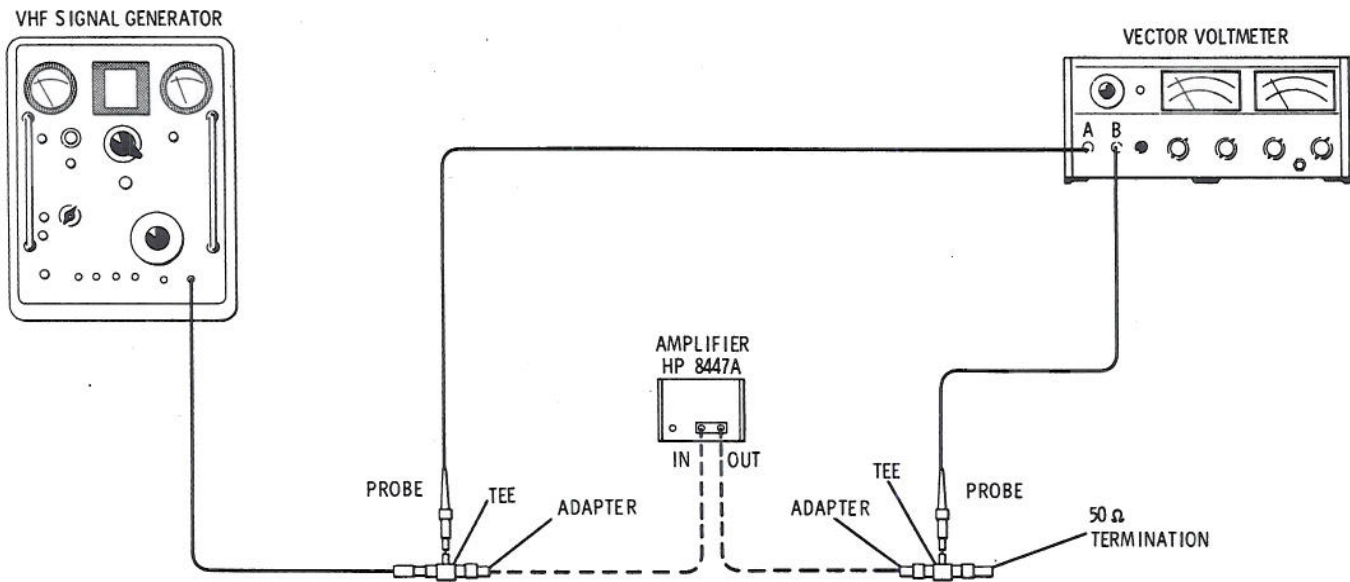

Figure 4-1. Gain, Compression and Flatness Test Setup
1. Connect the test setup as shown in Figure 4-1. Make the following control settings: